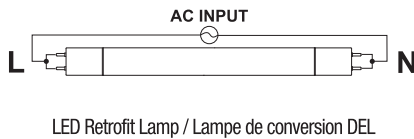

Fig. 1 Double end connection / Connexion à double extrémité
- LED T8 lamps are designed for double-ended connections (Fig.1).